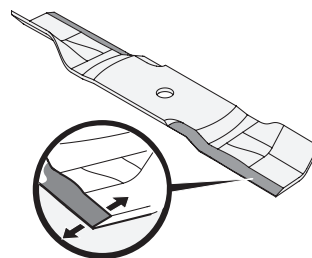

Fig. 46
- To properly sharpen the cutting blades, remove equal amounts of metal from both ends of the blades along the cutting edges, parallel to the trailing edge, at a 25°-30° angle. Always grind each cutting blade edge equally to maintain proper blade balance (Fig. 46).